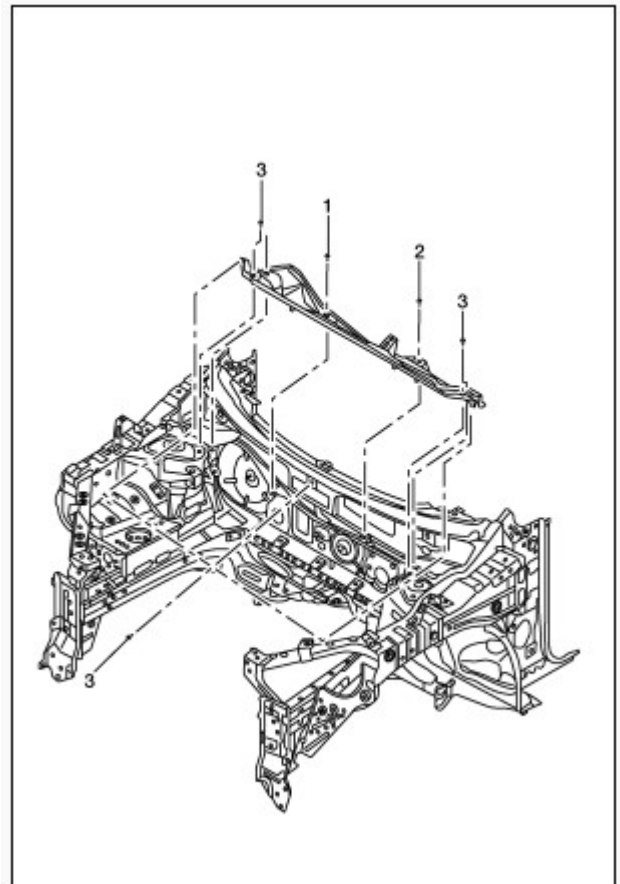

Figure 3
3. Remove the Cowl Top Extension (Figure 3).